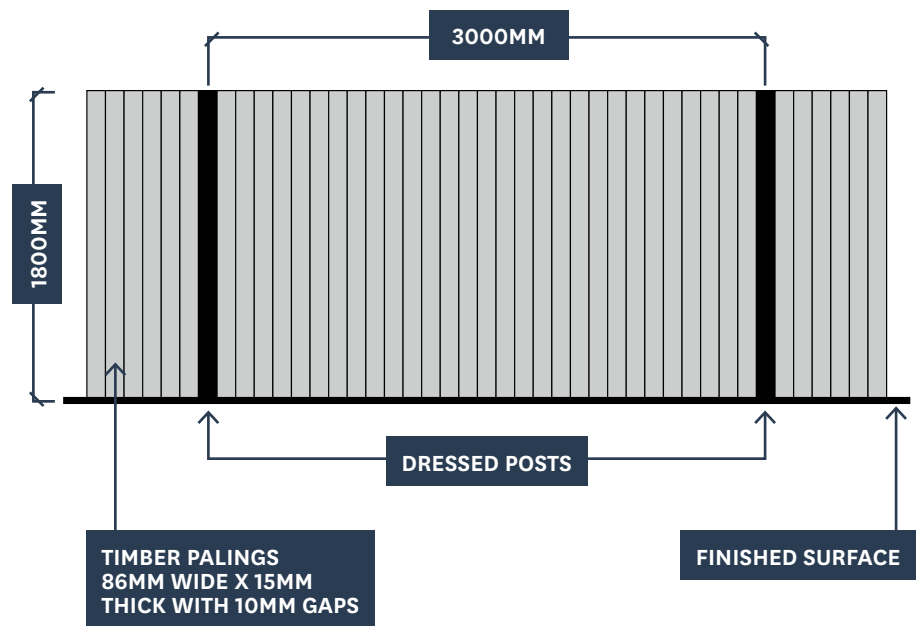

FIGURE 10 Iconic lot fencing.
- 1800mm high, 86mm wide, 15mm thick primed timber palings spaced 10mm apart as shown in Figure 10;